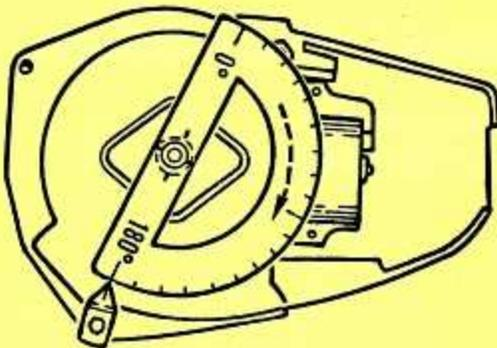

FIGURE 6
2. Turn the degree wheel until the indicator points to the 180 degree mark (Figure 6).